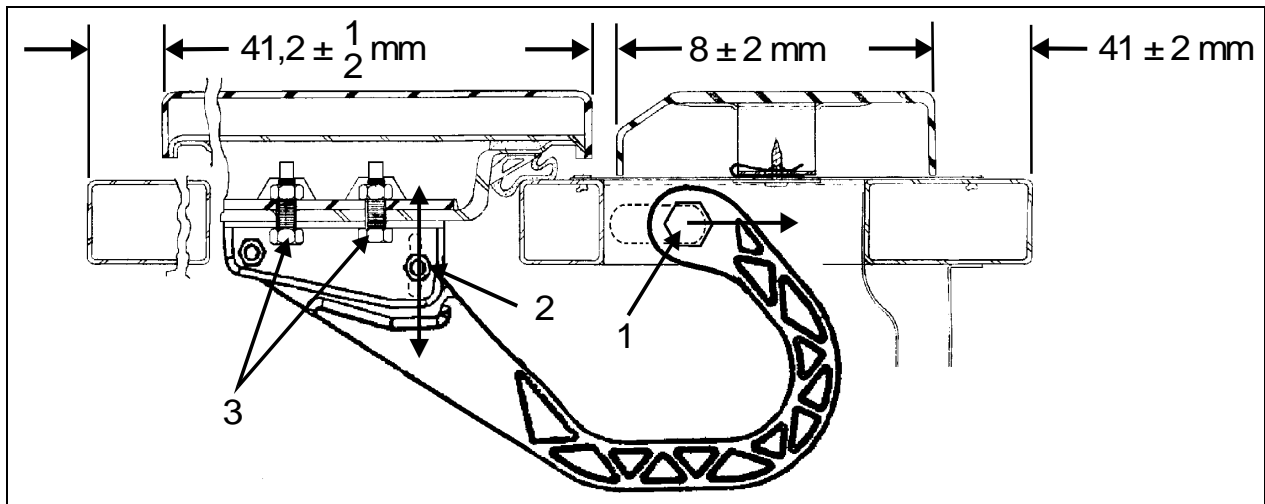

FIGURE 76: EVAPORATOR DOOR
- Tighten nut (1, Fig. 76).
- Loosen nut (2, Fig. 76). Hinge allows the door to be shifted "IN or OUT".
- Loosen nut (1, Fig. 76).